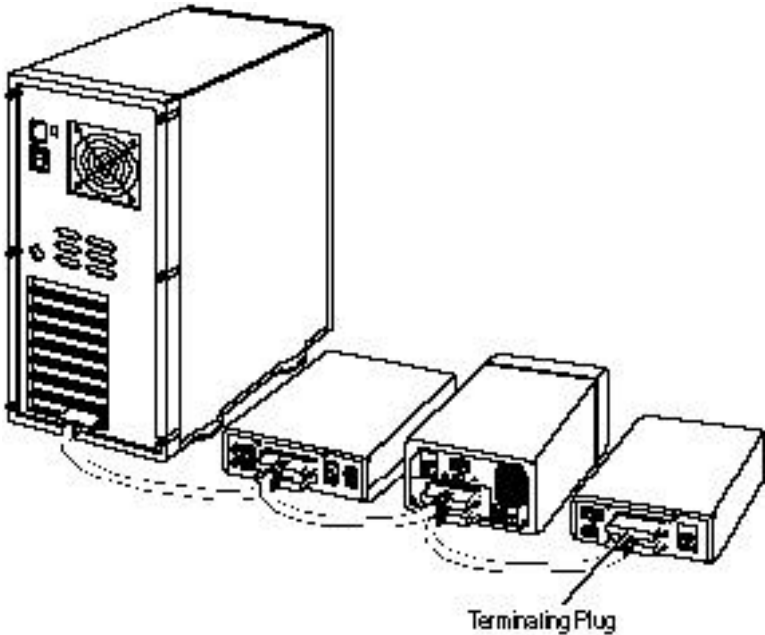

Figure 2-9: Attaching Multiple External Devices.
4. Connect other external SCSI devices by daisy-chaining each device to the previous device until all external SCSI devices have been connected, as shown in Figure 2-9. (The device at the end of the chain must have a terminating plug installed. See *SCSI Termination* on **page 17** for additional information.)